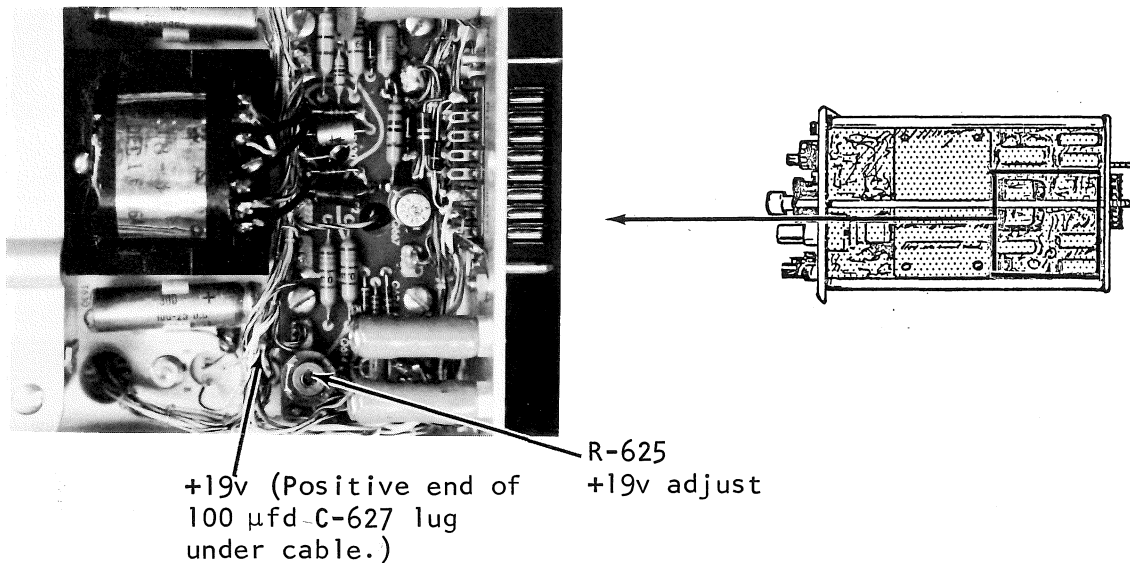

Figure 5-4
1. Connect the VOM to measure the +19v supply (see figure 5-4).
2. Adjust R625 (see figure 5-4) for exactly +19v as read on the VOM.
6. Remove the X1 test scope Probe from the -19v supply and connect it to the +19v supply (refer to figure 5-4).